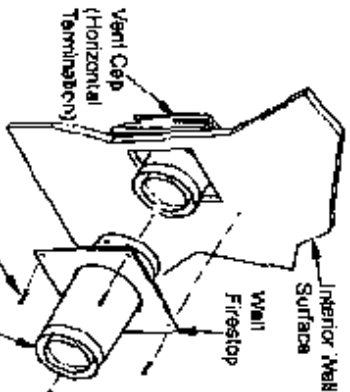

Figure 12 - Connecting Vent Cap with Horizontal Vent Pipe
7. Connecting Vent Cap with Horizontal Vent Pipe: Slide wall freestop over vent pipe before connecting horizontal run to vent cap (see Figure 12).